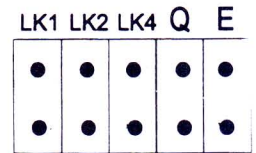

Fig.5
1. Apply power and remove links (LK1, 2, 4 and Q) as in Fig.5